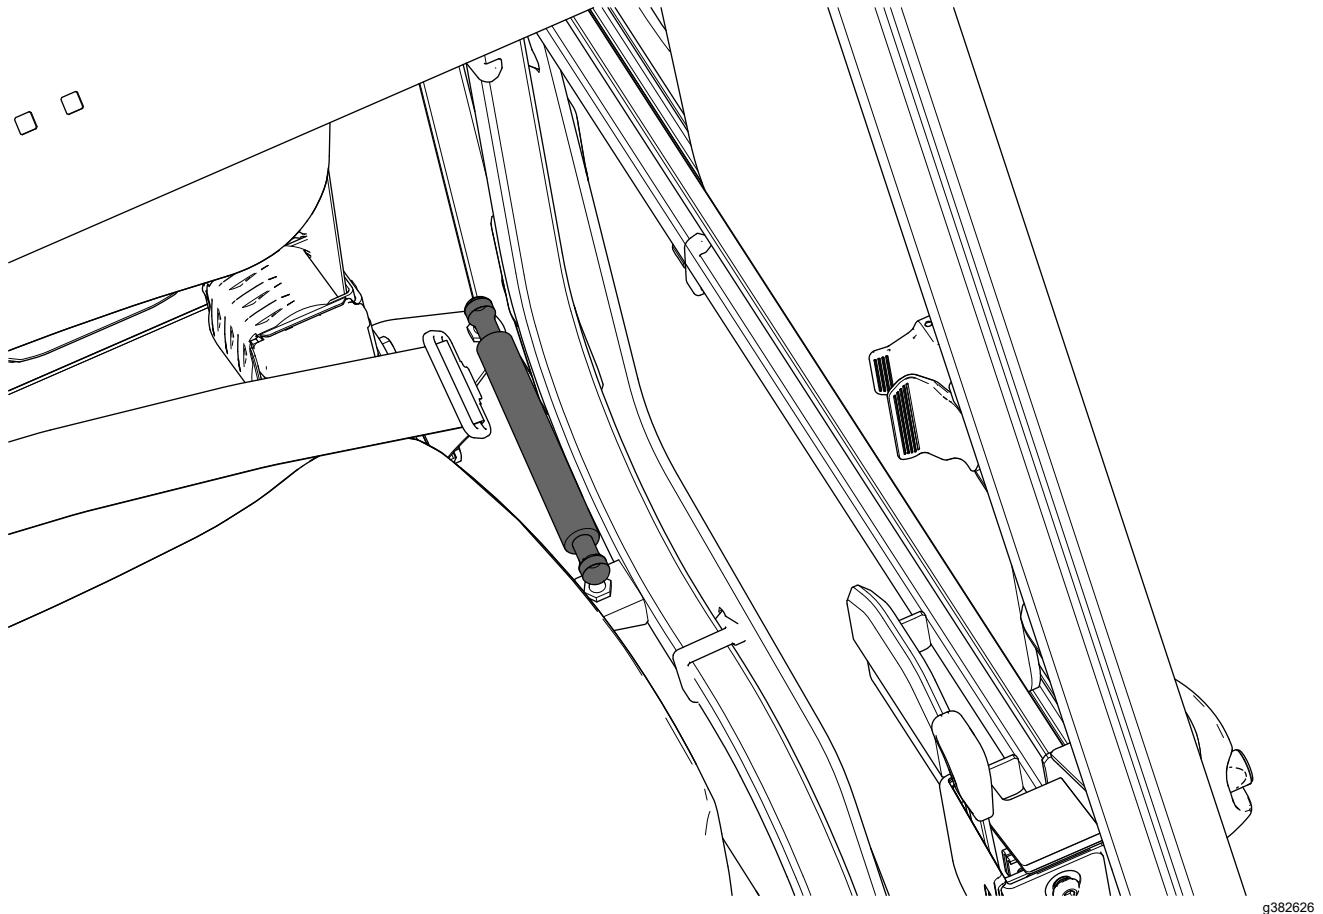

Figure 8
5. Secure a gas spring to the left strut mounts (Figure 8).
Ensure that you orient the gas spring as shown in Figure 8.